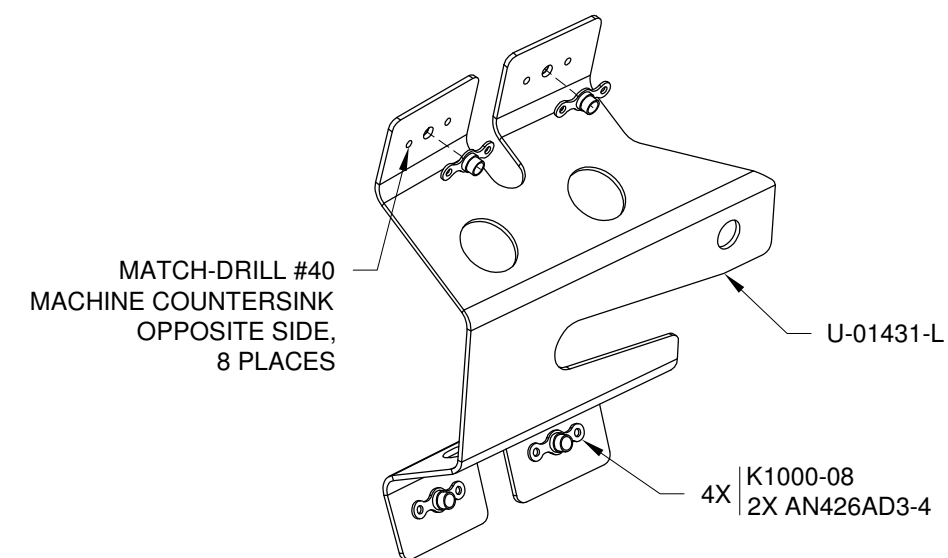

FIGURE 4: ATTACHING NUTPLATES TO BRACKETS
Step 5: Match-Drill #40 the U-01431-L & -R Nose Wheel Fairing Brackets for nutplate rivets as shown in Figure 4. Deburr and countersink the nutplate attach rivet holes for flush rivets.
Install the nutplates with the rivets called out in Figure 4.